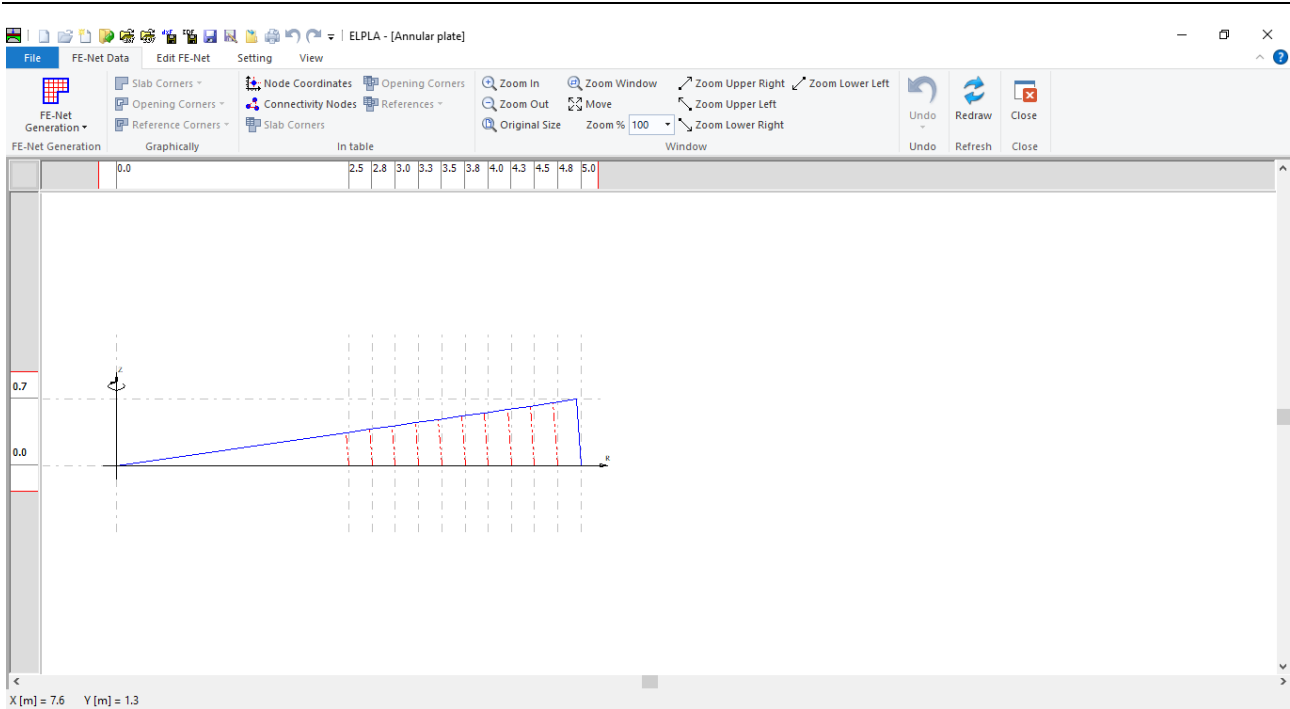

Figure 2.11 Generated FE-Net
*ELPLA* will generate a sector from the annular area with 11 circular elements. The following Window in Figure 2.11 appears with the generated net.
- Choose "Save" command from "File" menu in Figure 2.11 to save the data of the FE-Net
- Choose "Close" command from "File" menu in Figure 2.11 to close the "FE-Net" window and return to *ELPLA* main window